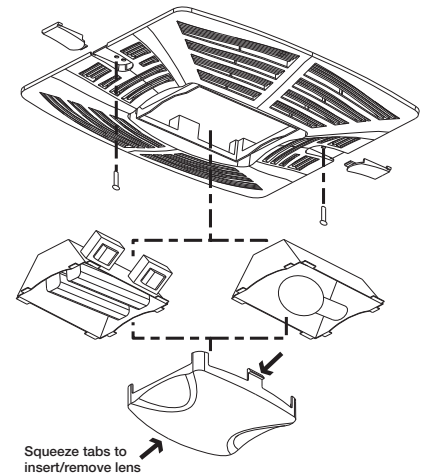

Figure 1 — Attach the Grille
4. Slide attachment screw covers over the attachment screws. See Figure 1.
the outside edges of the lens, see Figure 1. To remove lens, use small screw driver and pry on one side of lens.